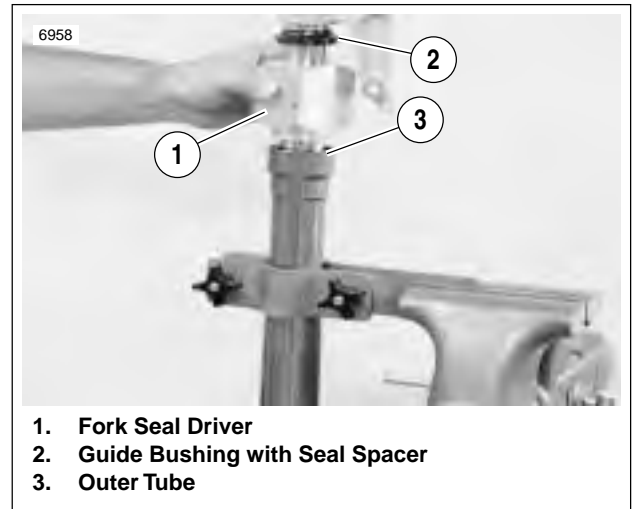

Figure 2-52. Fork Seal Driver
7. Move and tape or tie the dust seal (13) and stopper ring (12) out of the way.
8. Using FORK SEAL DRIVER (Part No. B-43721), drive the guide bushing (9) with the seal spacer (10) and oil seal (11) into position in the outer tube (4). See Figure 2-52.